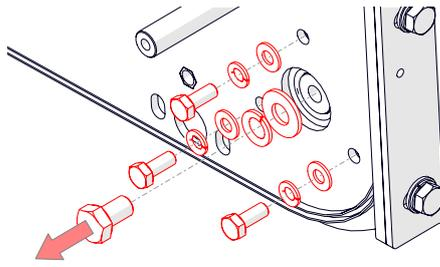

Fig.12L - Remove bolts from RH cylinder bearing, and central shaft
13. Insert a piece of wood or similar through the cylinder and wedge it against the front roller to stop it rotating. Remove the 3 x M8 bolts supporting the right hand cylinder bearing [13 mm spanner], and the central cylinder bolt [19 mm spanner] (Fig. 12L). Support the cylinder and lower to the floor.